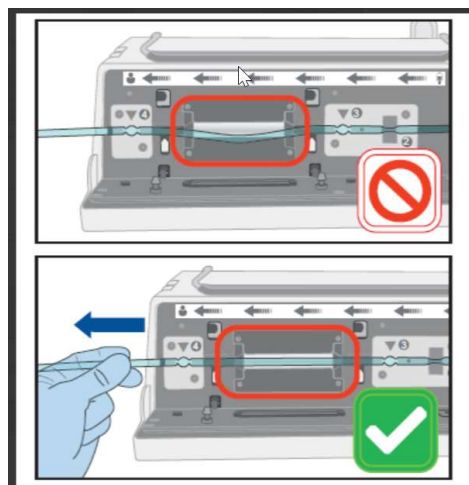

Figure 1
- b) The tubing is taut and loaded without slack in the pumping channel as pictured on page 7 of enclosed Attachment A, and in Figure 1 below.